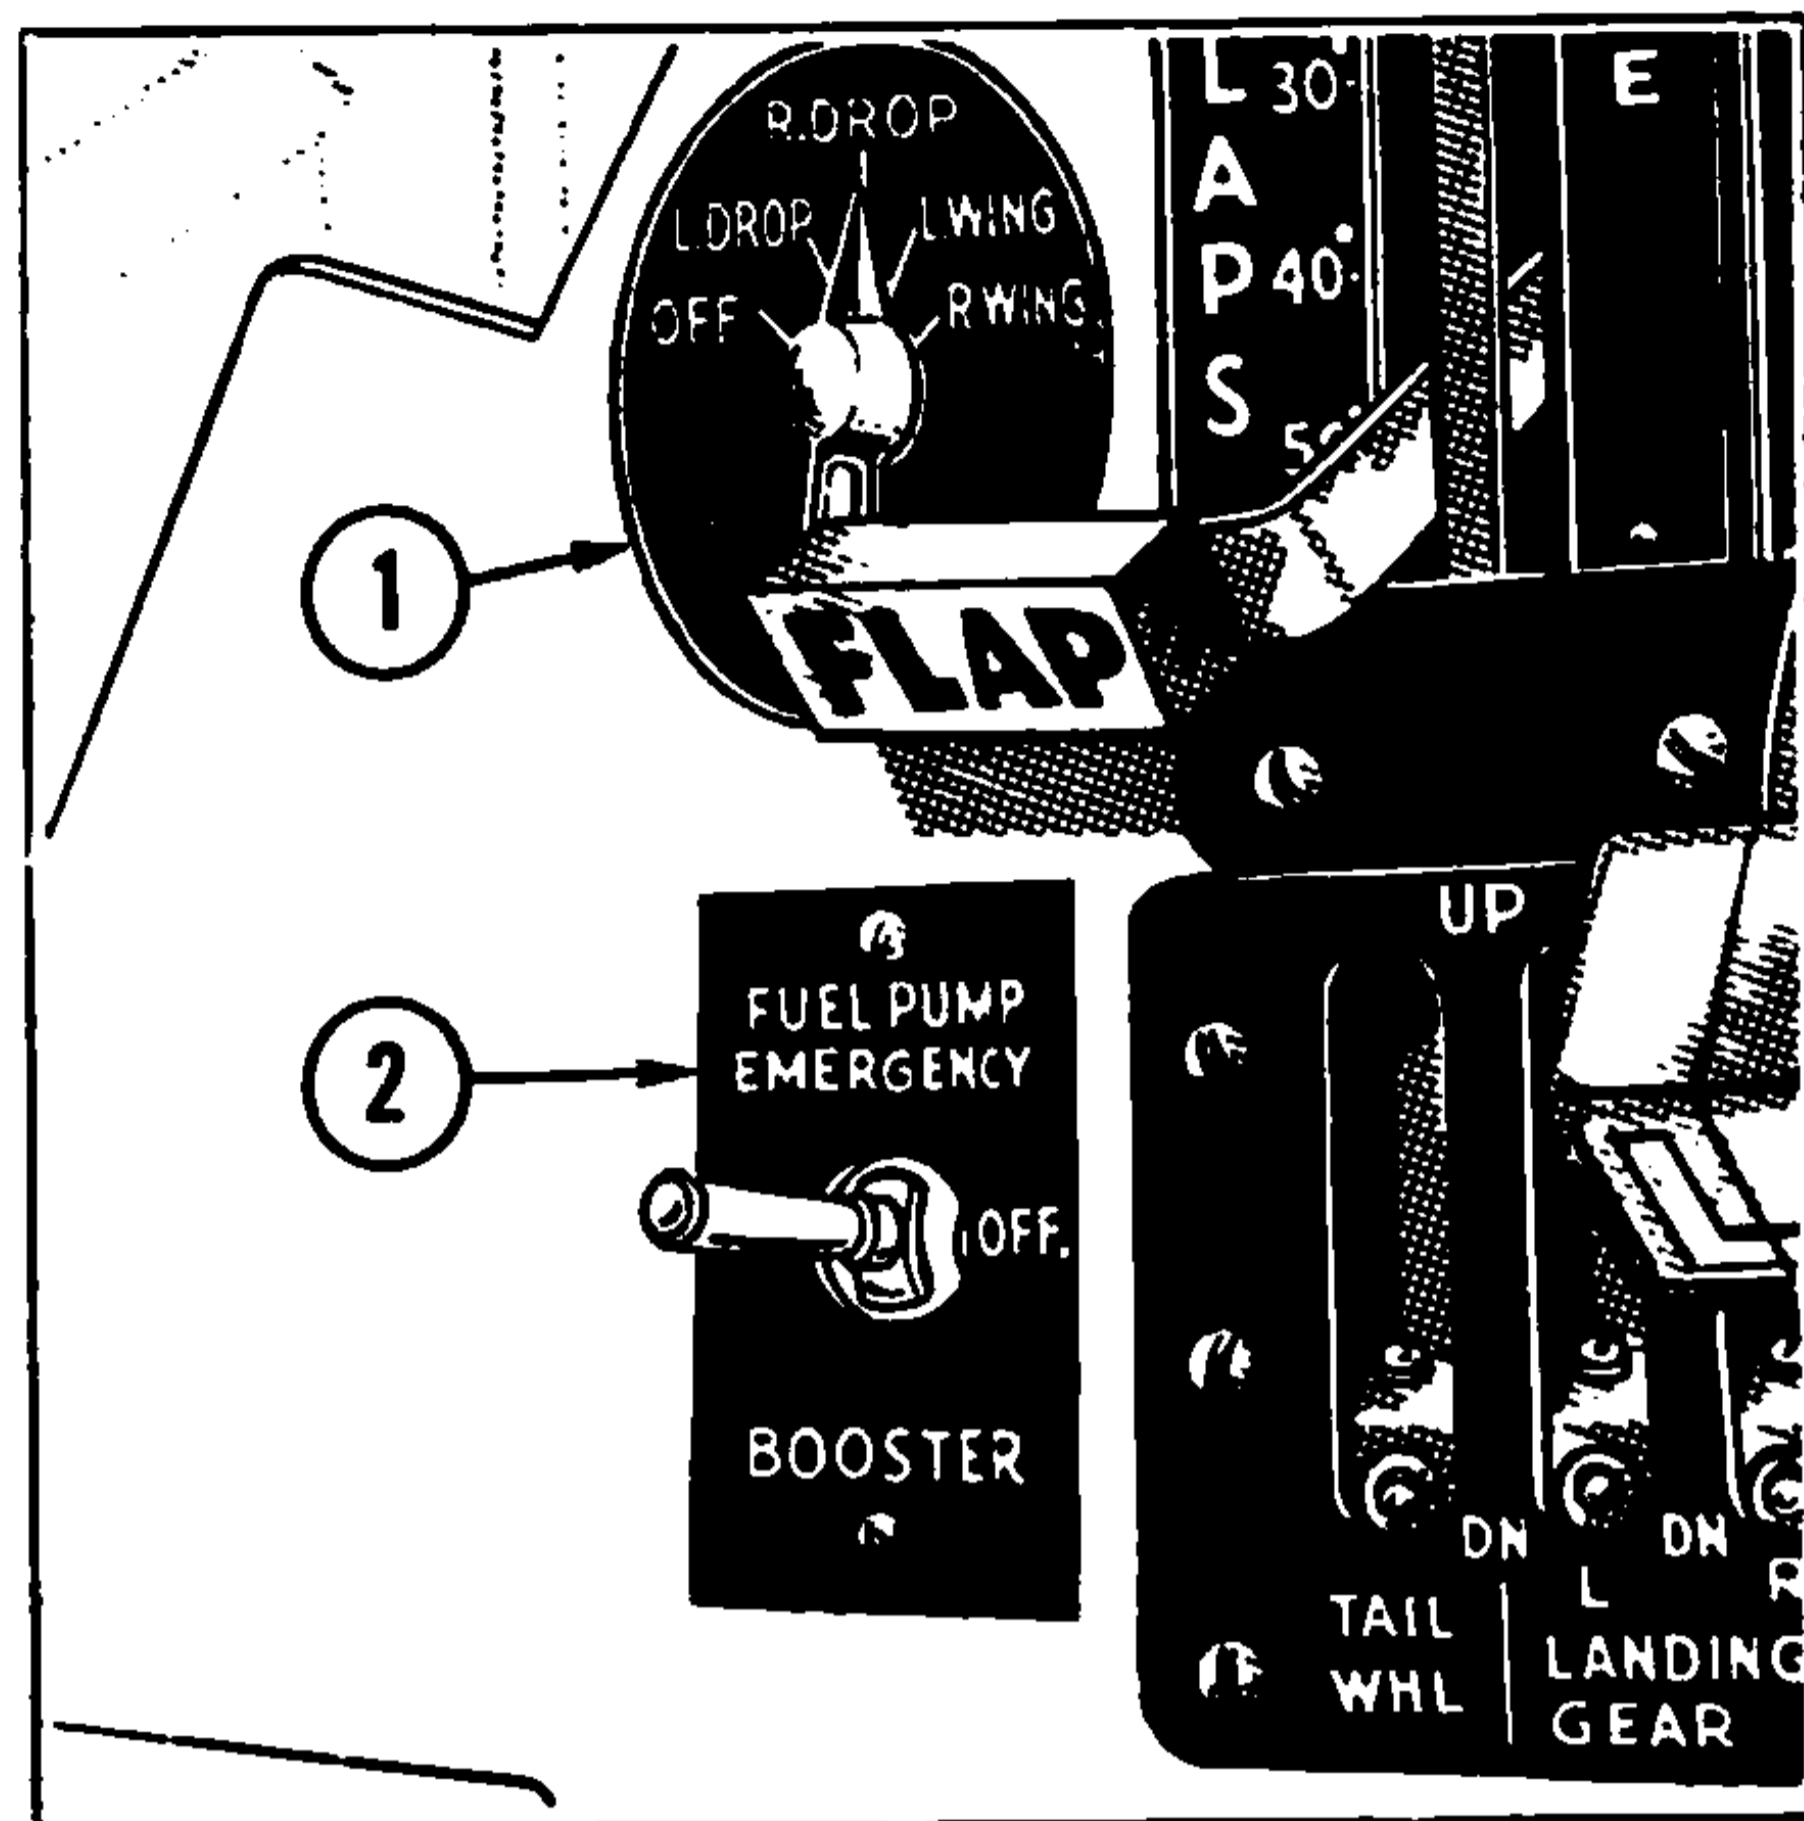

Figure 12 — Fuel System Switches
(2) SUBMERGED FUEL PUMP CONTROL. — The switch controlling the submerged fuel pump is located on the left-hand control panel beside the wing flap control. (See 2, figure 12.) It has three positions: **OFF**, **BOOSTER**, and **EMERGENCY**. When the switch is in the normal operating (**BOOSTER**) position, the submerged pump is running at low speed and develops pressures in the delivery line up to about 11 lbs/sq in. Turning the switch to **EMERGENCY** increases the pump speed and builds fuel pressures up to carburetor requirements, and makes continued engine operation possible after failure of the engine-driven pump.
(a) FUEL TRANSFER SWITCH. (See 1, figure 12.) — This switch is on the left-hand control panel beside the switch for the submerged pump. Its five positions are **OFF**, **L DROP**, **R DROP**, **L WING**, and **R WING**. It is interconnected electrically with both the fuel selector valve and the submerged fuel pump, so that operation of the transfer system depends not only on the setting of the transfer switch but also on the settings of the other two controls: